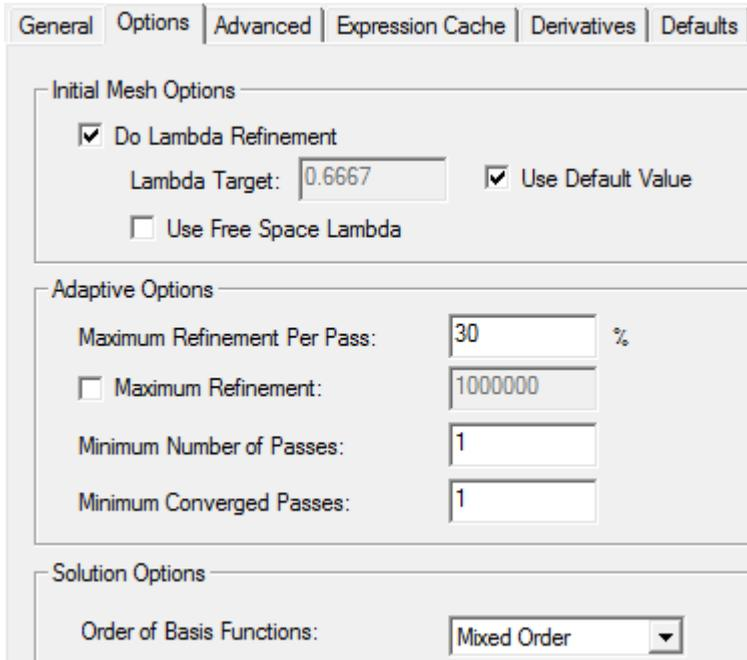

Figure 2. Options tab
- 4 Click **Options**, edit the fields as in Figure 2 and click **OK**.